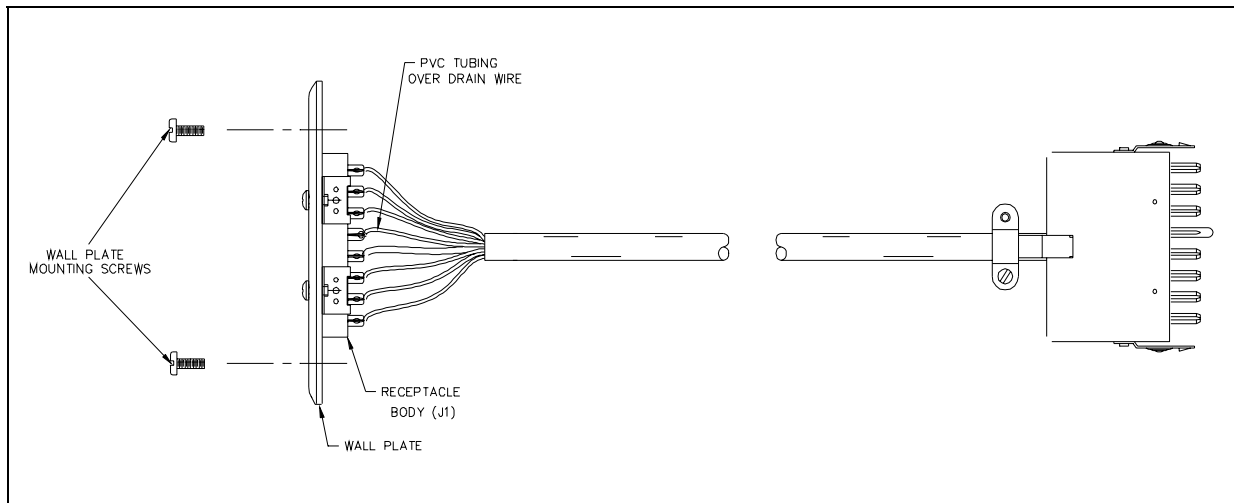
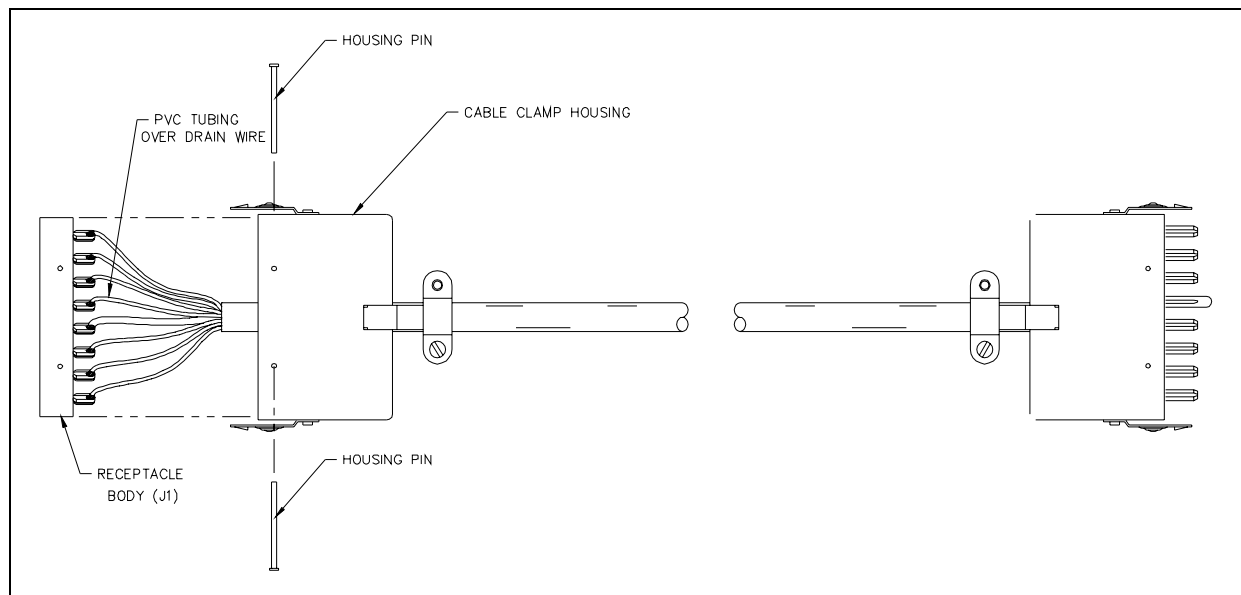
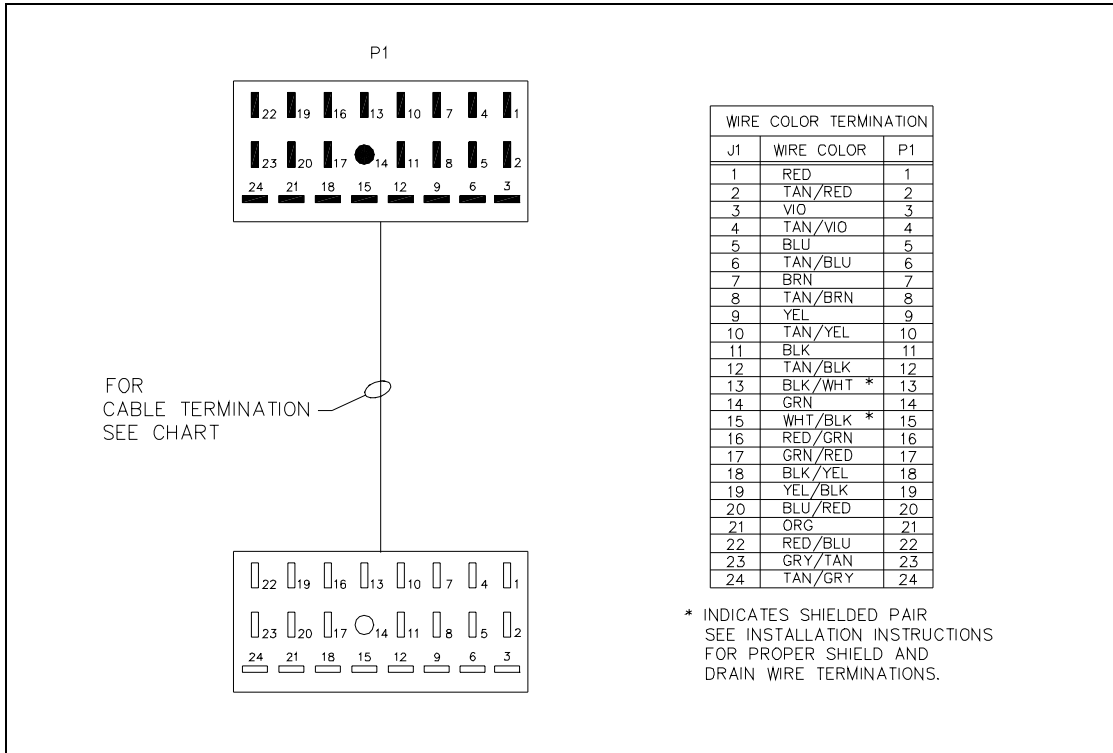

Figure 1. Installation as a Wall Receptacle
Figure 2. Installation as a Subset Extension
Figure 3. Wire Color Termination
5. See Figure 3 for proper wire color terminations. Solder all wire leads and drain wire to receptacle J1 on the wall plate as indicated in Figure 2. Make sure that there are no wire strands touching any other terminations.
5. See Figure 3 for proper wire color terminations. Solder all wire leads and the drain wire to receptacle J1 as indicated in Figure 1. Make sure that there are no wire strands touching any other terminations.